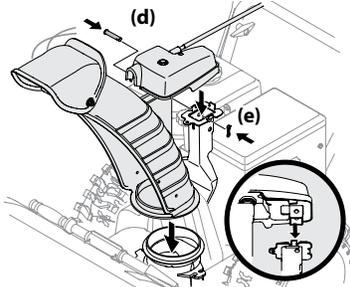

Figure 2-37
3. Place chute onto chute base and ensure chute control rod is positioned under handle panel. Secure chute control head to chute support bracket with clevis pin (d) and bow-tie cotter pin (e) removed in Step 1. See Figure 2-37.